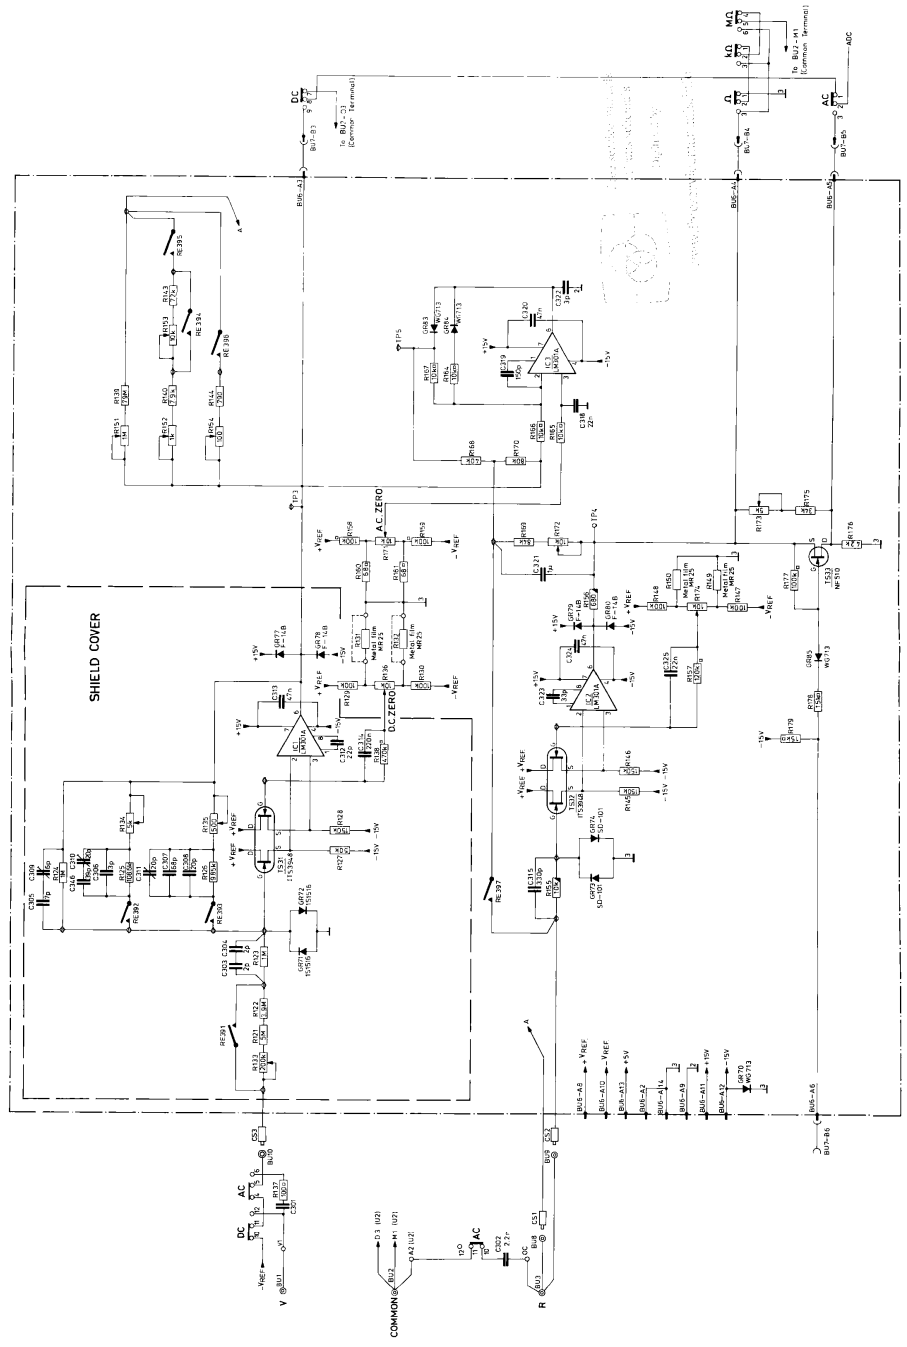

Fig. 10. Diagram input circuit
4. Survey analog section (Fig. 10)